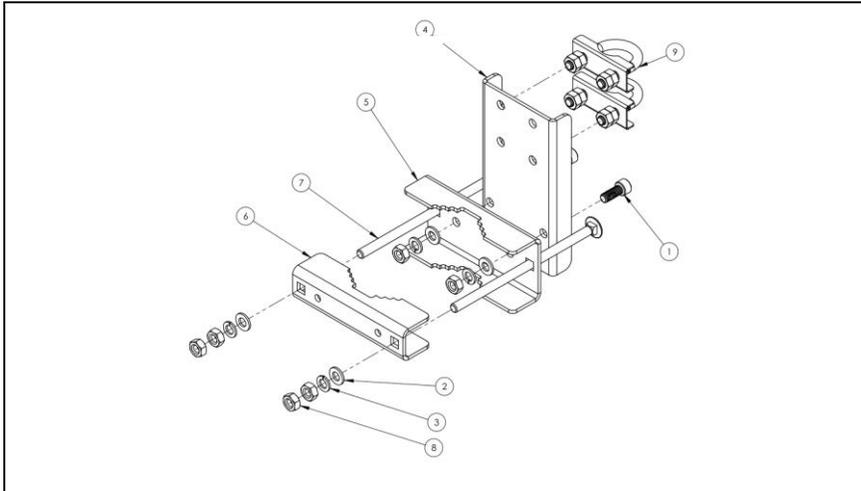

Fig. 1: MBC-09 Mast Bracket Clamp BOM
- 1 Hand tighten the Socket Head Cap Screws (Item 1) with the associated hardware to the Mast Bracket Clamp (Item 5), as shown in Fig. 1 above. Then torque the Socket Head Cap Screws to 20 N·m (15 ft-lbs).